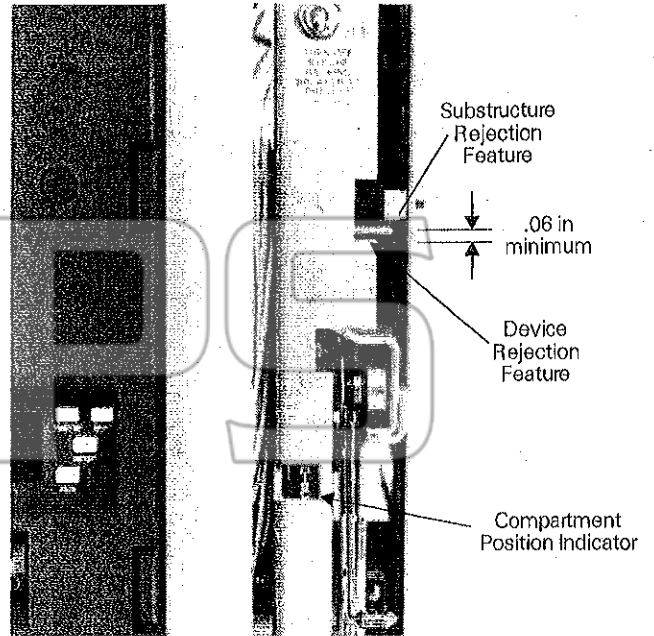
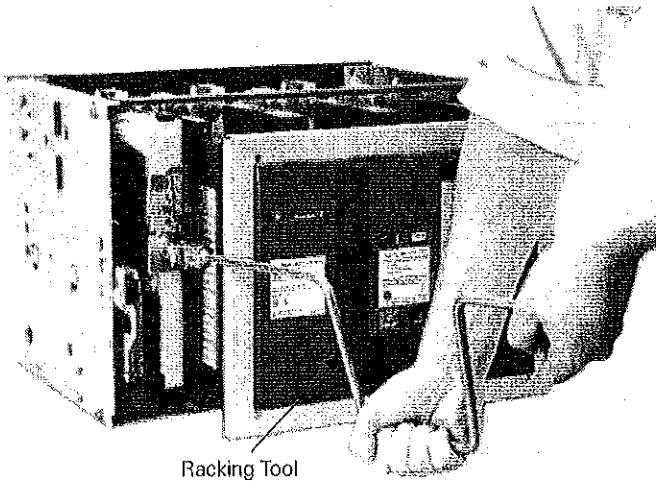

Figure 8. Compartment position indicator on the front of the device.
Figure 7. Wrench attached to the device racking shaft.
**Rejection Feature.** This feature prevents insertion of a device into a substructure of lower ampere rating or higher short-circuit rating. It does not reject a device with incompatible control wiring. See the label on the device or Tables 1 or 2 for the proper substructure catalog number. (Also shown in Figure 8.)
4. Engage the 1/2-inch square end of the racking shaft with the supplied wrench, catalog number TDORT, and rotate the shaft clockwise to draw the device into the TEST or CONNECTED position, as illustrated in Figure 7. The compartment position indicator is shown in Figure 8.
**NOTE:** If the device does not fit the structure, check the rejection relationship, illustrated in Figure 8, to verify that a correctly rated device is being installed. Table 1 lists the correct draw-out substructure for each device frame.
**NOTE:** Si le mécanisme ne rentre pas dans le berceau, vérifier le détrompeur illustré dans les figure 8, qui empêche l'insertion d'un mauvais calibre de mécanisme. La Table 1 définit le berceau convenable à chaque taille de mécanisme.
1. Engage the 1/2-inch square end of the racking shaft with the supplied wrench, catalog number TDORT, as illustrated in Figure 7, and rotate the shaft counter-clockwise to withdraw the device to the TEST or DISCONNECTED position. The compartment position indicator is shown in Figure 8.